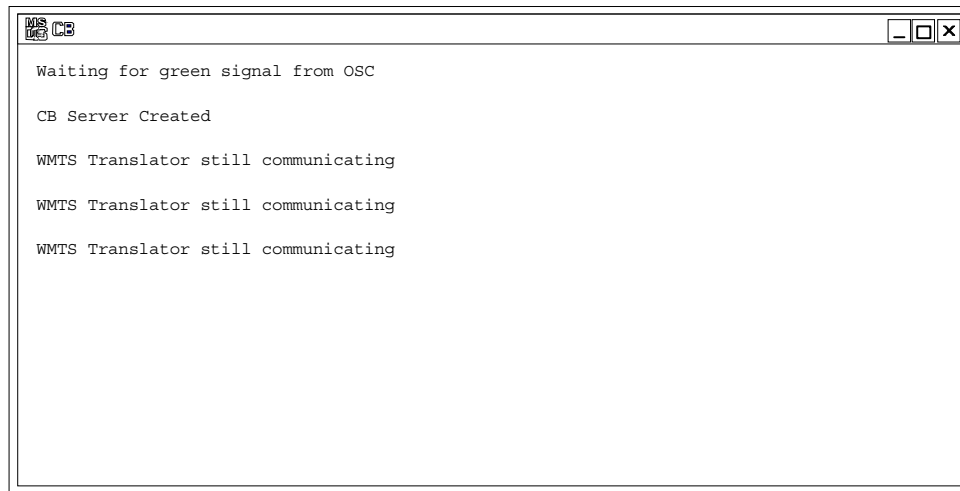

FIGURE 5-2
1. Turn on the bedside monitor. If the radio card is communicating with the Wireless Server, the Server will display "WMTS Translator still communicating" (shown in FIGURE 5-2).
1. Install new batteries into a Telepack. If the Telepack is communicating with the Wireless Server, the Server will display "WMTS Translator still communicating" (shown in FIGURE 5-2).